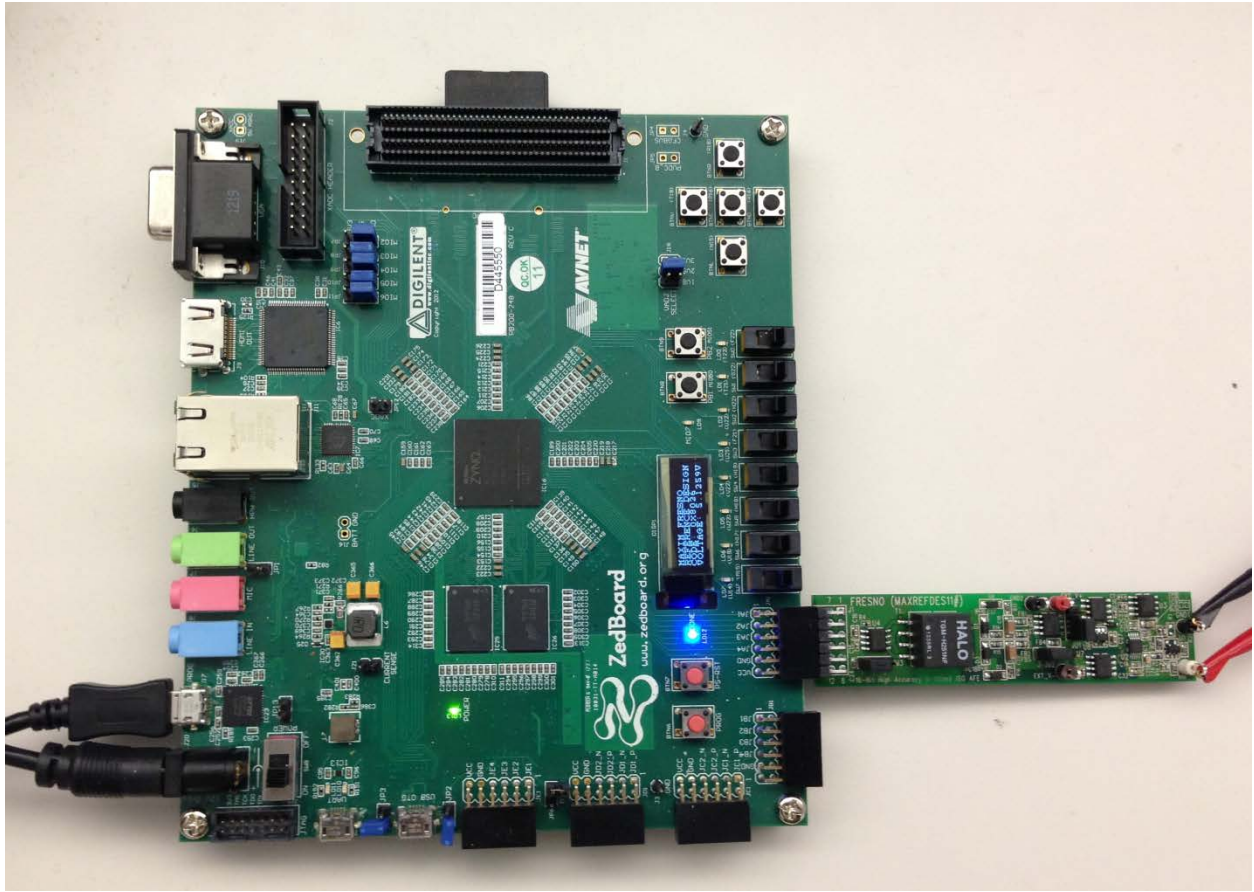
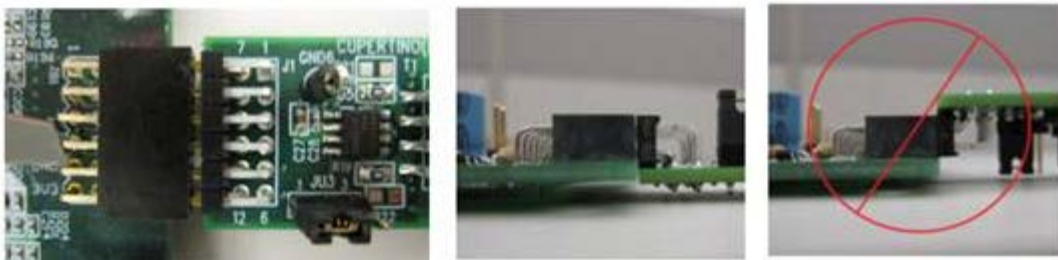

Figure 1. Fresno Board Connected to ZedBoard Kit
Figure 2. Pmod™ Connector Alignment
- 1) Connect the Fresno board to the JA1 port of a ZedBoard as shown in Figure 1. Ensure the connector is aligned as shown in Figure 2.
1. Connect the Fresno board to the JA1 port of a ZedBoard as shown in Figure 1.